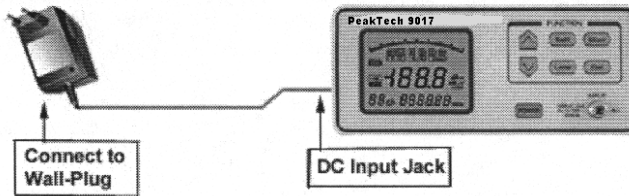

Fig. 4-1 Charging by AC adaptor
7.3. Charging by AC adaptor (Figure 4-1)